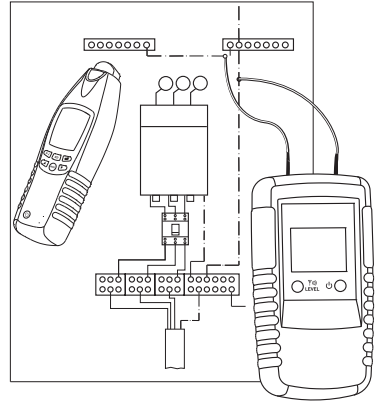

figure 13
- Connect the transmitter to the system compliance with the figure 13. Now, the neutral conductor, being present within the total system, may be followed.